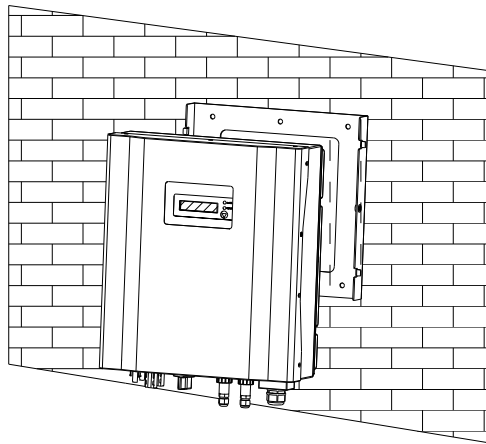

Fig.4 Hang inverter to mounting frame
Step2: Fix the mounting frame as illustrated in the Fig.4 by the screws, then hang the inverter on the mounting frame.